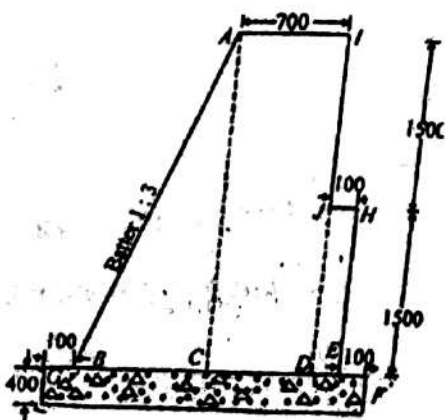

Fig.2
- Q5. Work out the quantities of the following items of a retaining wall shown in fig.2